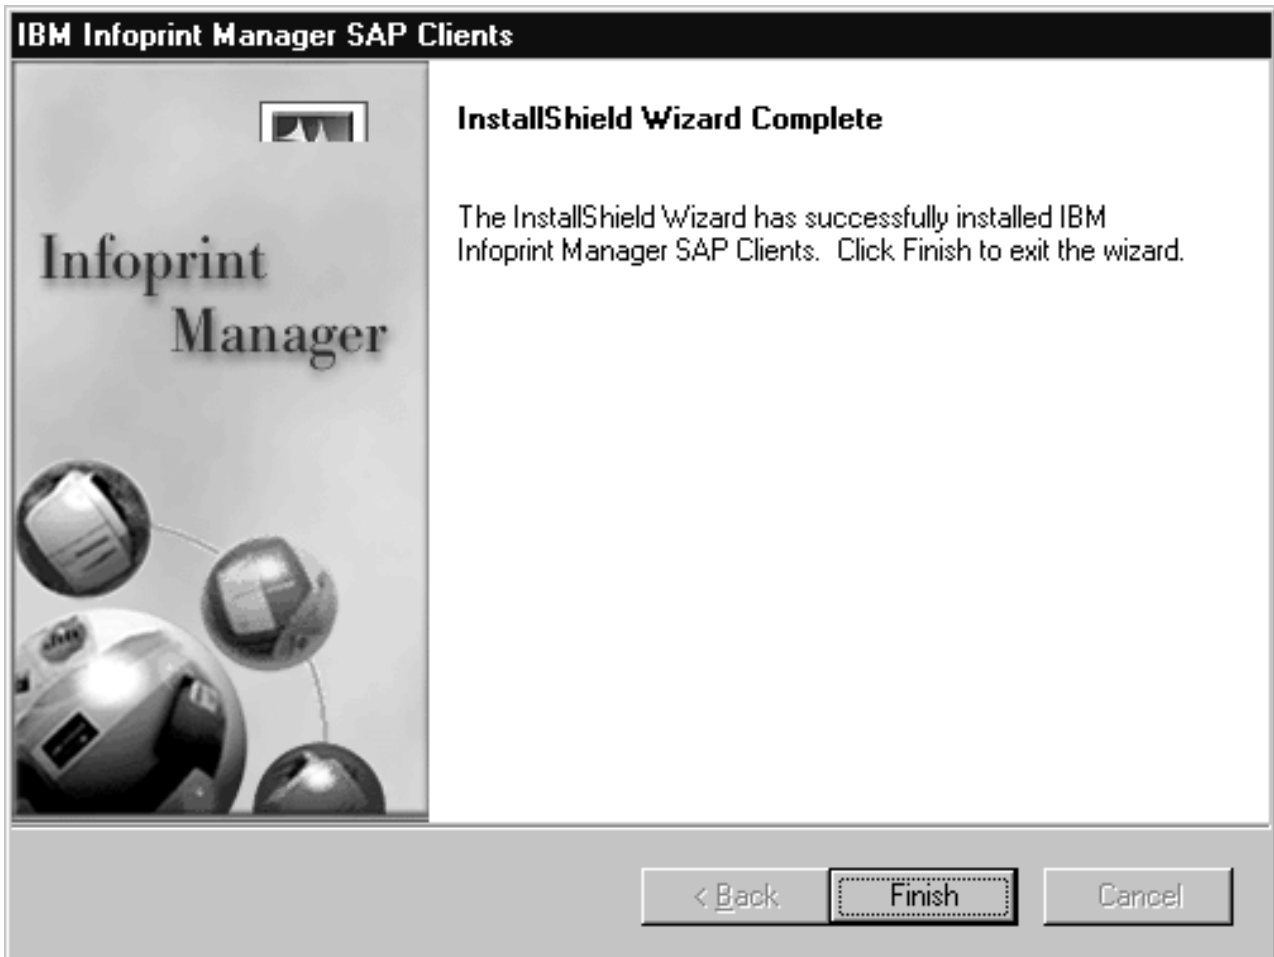

Figure 5. InstallShield Wizard Complete screen after installing SAP clients on Windows
7. When the SAP client has been installed, click the **Finish** button shown in Figure 5.